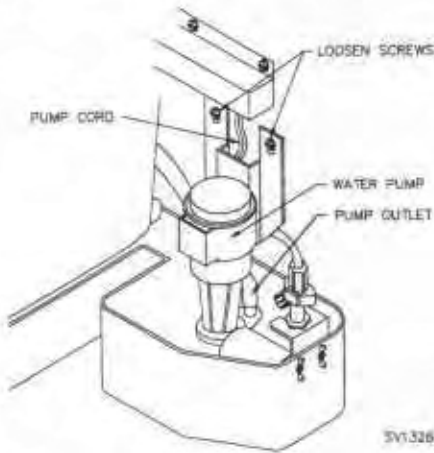

Figure 12. WATER PUMP REMOVAL
3. Check dump valve's clear plastic outlet drain tube (Figure 12), for leakage while the ice machine is in the freeze mode.